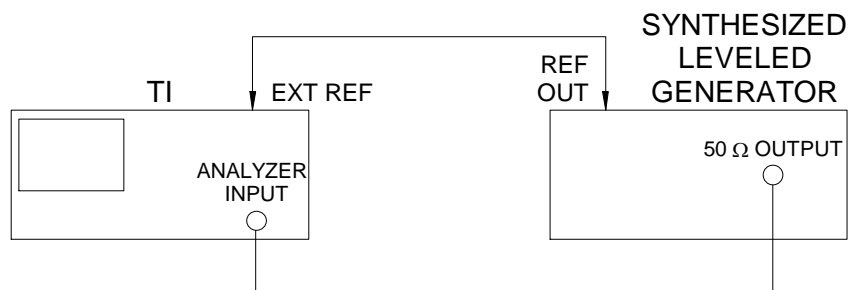

Figure 3.
4.10.2 Connect equipment as shown in Figure 3.